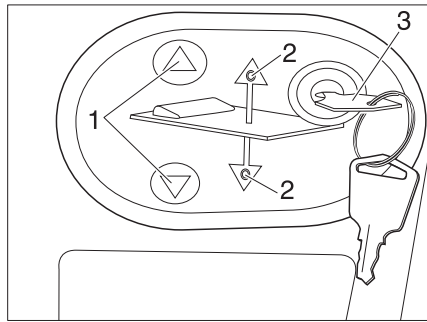

Fig. 163 Operating panel for the electrical pull-down bed
- Insert the key (Fig. 163, 3) into the operating panel (Fig. 163, 2).
- Press the  or  (Fig. 163, 1) button and keep it pressed. The respective LED (Fig. 163, 2) lights up and the pull-down bed moves down or up.
- When the desired position has been reached, release the  or  (Fig. 163, 1) button again. The respective LED (Fig. 163, 2) extinguishes.
- Remove the key (Fig. 163, 3).